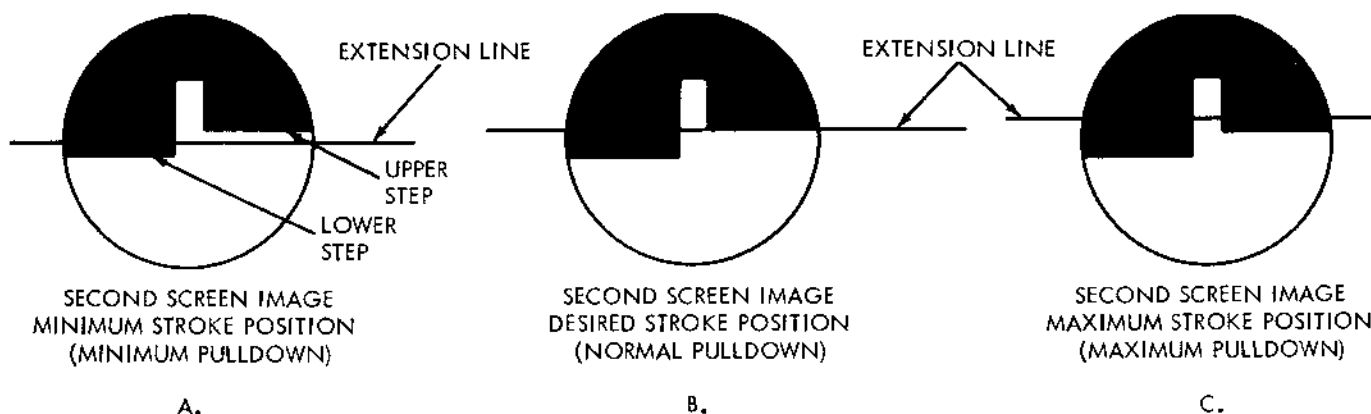

Figure 15E. Determining Pull-down (Stroke Position)
The distance of downward movement of image is the measurement used to determine pull-down. The image shown in (A) of Figure 15E represents minimum acceptable pull-down; the reference line on the screen is halfway between the lower (first) and upper (second) step of the image. Normal pull-down (0.3010 ± 0.0005 inch) is represented in the center illustration (B) of Figure 15E.
The second step of the image is coincident with the reference line. Maximum pull-down is represented by (C) of Figure 15E; the distance of the second step below the reference line is approximately half the difference (0.3010 inch) between the first and second step.